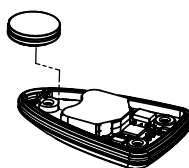

Figure 6. Insert the batteries in the transmitter
4. Insert the new batteries (see fig. 6 and 7).